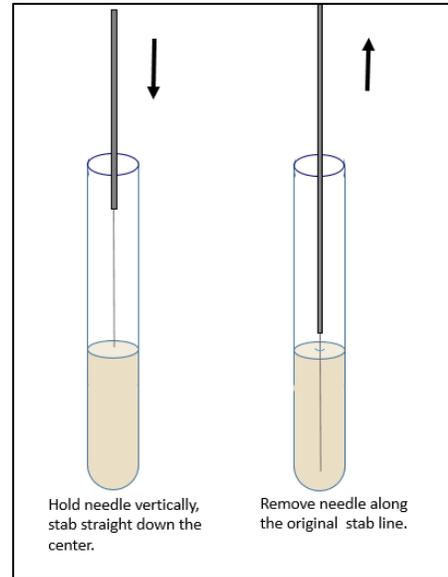

Figure 1 Stab inoculation
3. Holding the needle vertically, stab the agar straight down the center to within a quarter inch of the bottom. Then draw it straight back out of the tube. Try to follow the original stab line when removing the needle. See figure 1.